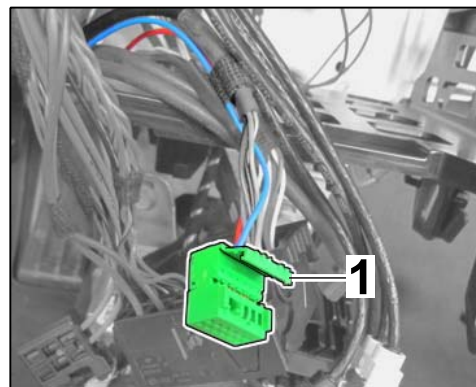

Figure 20
- 4.4.3 Open secondary lock ⇒ *Figure 20 -1-* (⇒ *Figure 20 -arrow-*).